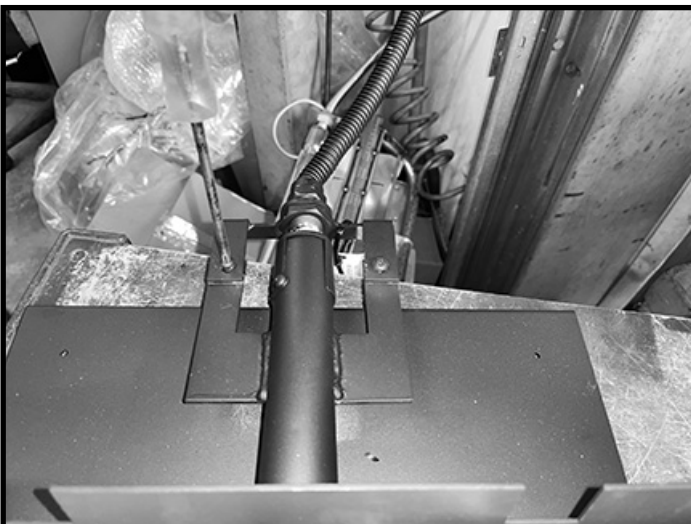

Figure 20: Unscrewing manifold from the burner.
2. Remove the two screws securing the manifold assembly to the burner (Figure 20).